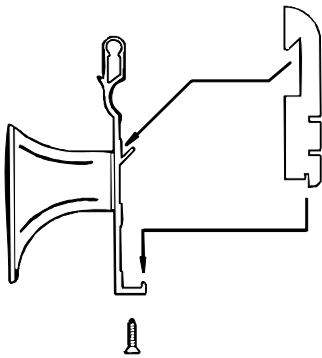

Fig 14
- Step 14:** Place wood bumper guard over the aluminum retainer starting at one end of the span. Drill pilot holes in bumper guard (#29 bit) using countersink hole as a location guide. Secure in place with #8 wood screws provide, *fig. 14*